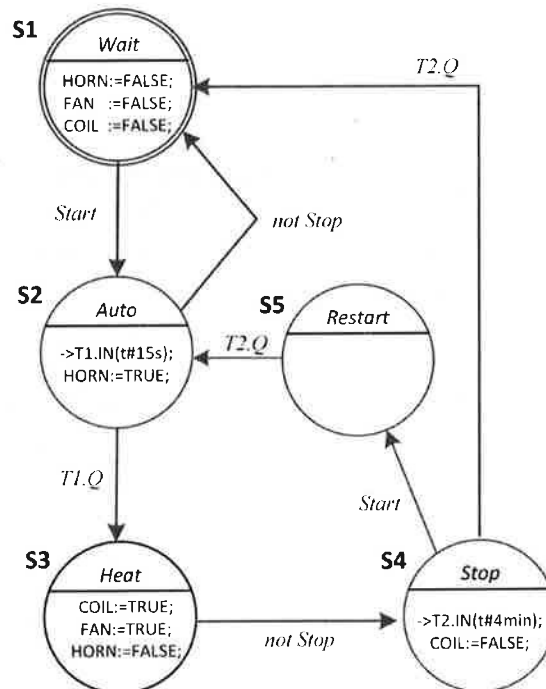

Figure 2. Moore state machine controller of the oven.
6. Moore state machine of the oven controller is presented in Figure 2.